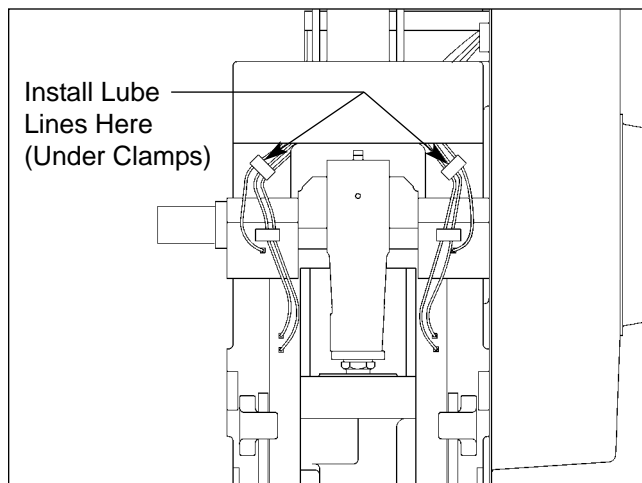

Figure 3C. Lube line installation.
1. Relocate the lube lines. The lines must be relocated from their shipping position within the press crown cavity, and reinstalled on the front of the press as shown in Figure 3C. Use line clips and hardware provided.